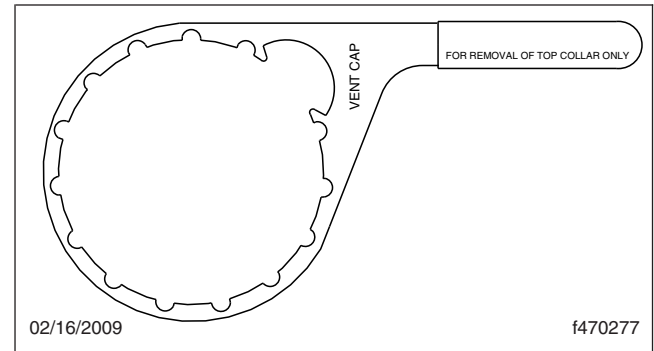

Fig. 21.3, DAVCO Collar Wrench
- Using a DAVCO collar wrench (Fig. 21.3), remove the clear cover and collar.